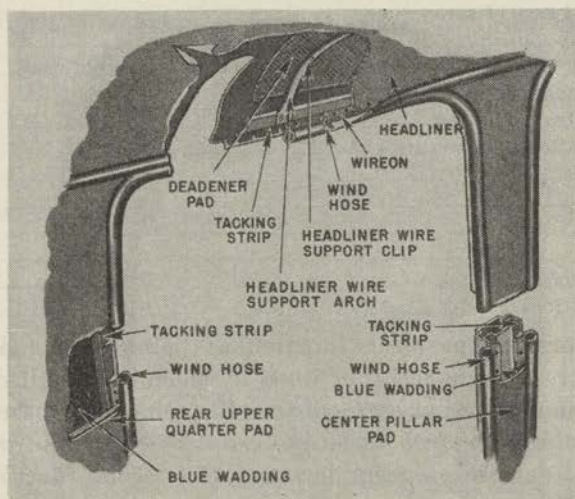

FIGURE 110.—Interior trim around rear door.
25. Miscellaneous interior trim.—*a.* Interior trim in passenger cars, such as the items shown in figure 110, is installed in different though similar ways by various manufacturers. When stripping the old parts, therefore, observe how they were installed, and install the new ones in the same way. An example of the installation of headliner, wind hose, and wireon around a rear door is shown in figure 110.